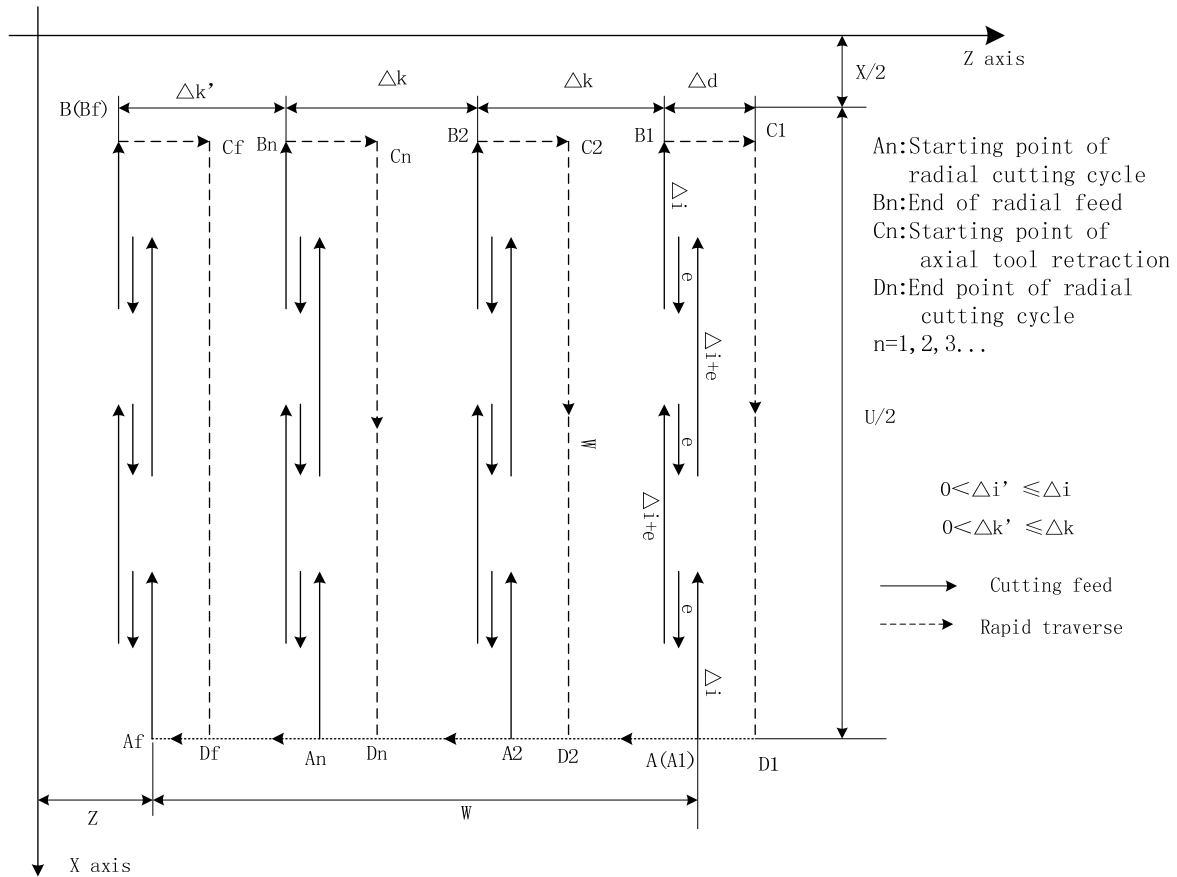

Fig. 3-81 G75 path
**Execution process:** (Fig. 3-81)
- ① Radial (X) cutting feed  $\Delta i$  from the starting point of radial cutting cycle, feed in X negative direction when the coordinates of cutting end point is less than that of starting point in X direction, otherwise, feed in X positive direction;
- ② Radial(X) rapid tool retraction  $e$  and its direction is opposite to the feed direction of ①;
- ③ X executes the cutting feed ( $\Delta i+e$ ) again, the end point of cutting feed is still in it between starting point  $A_n$  of radial cutting cycle and end point of radial tool infeed, X executes the cutting feed ( $\Delta i+e$ ) again and executes ②; after X cutting feed ( $\Delta i+e$ ) is executed again, the end point of X cutting feed is on  $B_n$  or is not on it between  $A_n$  and  $B_n$  cutting feed to  $B_n$  and then execute ④;
- ④ Axial(Z) rapid tool retraction  $\Delta d$  to  $C_n$ , when Z coordinate of  $B_f$  (cutting end point) is less than that of A (starting point), retract tool in Z positive, otherwise, retract tool in Z negative direction;
- ⑤ Radial (X) rapid retract tool to  $D_n$ , No. n radial cutting cycle is completed. The current radial cutting cycle is not the last one, execute ⑥; if it is the previous one before the last radial cutting cycle, execute ⑦;
- ⑥ Axial(X) rapid tool infeed, and its direction is opposite to ④ retract tool. If the end point of tool infeed is still on it between A and  $A_f$  (starting point of last radial cutting cycle) after Z tool infeed ( $\Delta d+\Delta k$ ), i.e.  $D_n \rightarrow A_{n+1}$  and then execute ① (start the next radial cutting cycle); if the end point of tool infeed is not on it between  $D_n$  and  $A_f$  after Z tool infeed ( $\Delta d+\Delta k$ ), rapidly traverse to  $A_f$  and execute ① to start the first radial cutting cycle;
- ⑦ Z rapidly traverses to A, and G75 is completed.
1. The cycle movement is executed by X(W) and P( $\Delta$ i) blocks of G75, and the movement is not executed if only "G75 R(e);" block is executed;
2.  $\Delta$ d and e are specified by the same address R and whether there are X(U) and P( $\Delta$ i) words or not in blocks to distinguish them;